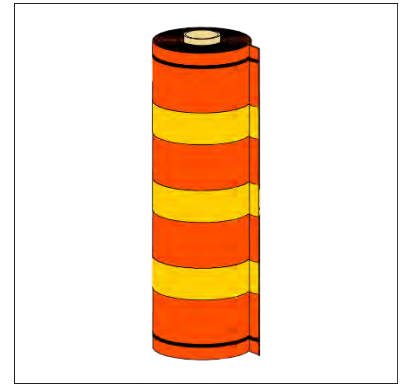

Figure 19
i. **Debris Netting Rolls (Fig. 19)**